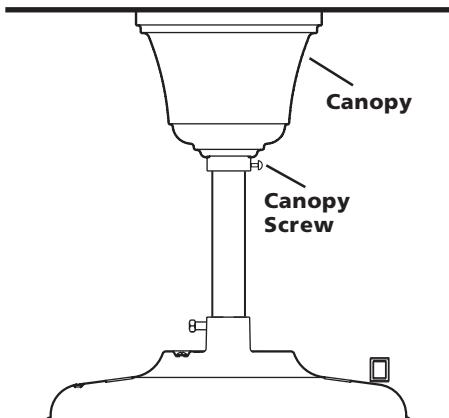

Figure 6 - Assembling the Canopy
2. Insert and tighten the #6-32 canopy screw to hold the canopy in place. Refer to Figure 6.